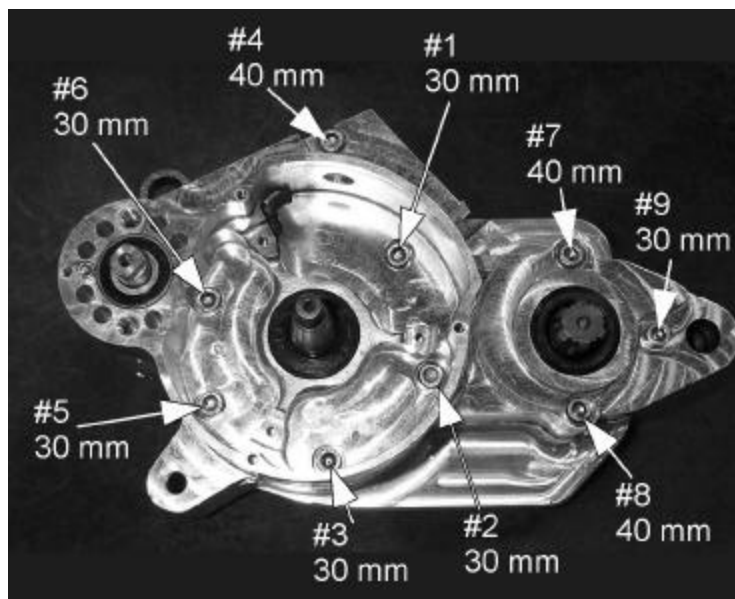

Figure 9
14. Torque to 9 Nm (80 in-lb) in the pattern shown in figure 9.